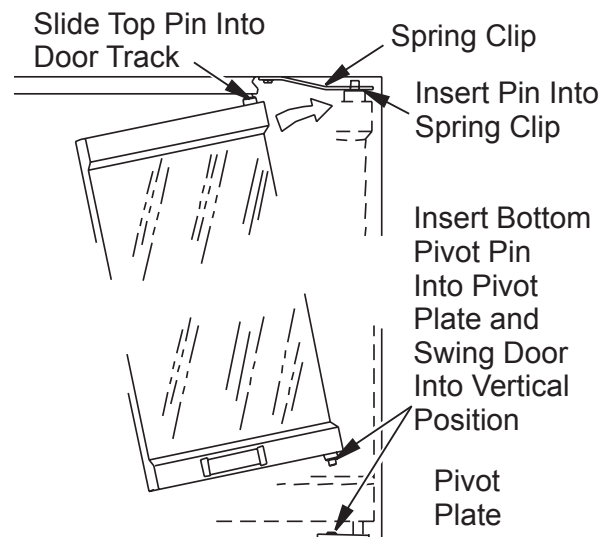

Figure 30 - Installing Optional Glass Door
2. With handle facing center of firebox opening, insert lower pivot pin on glass door panel into hole in pivot plate on bottom edge of fireplace opening (see Figure 30).
4. Tilt door assembly fully vertical until outer pivot pin snaps into mounting hole in upper spring clip (see Figure 30).